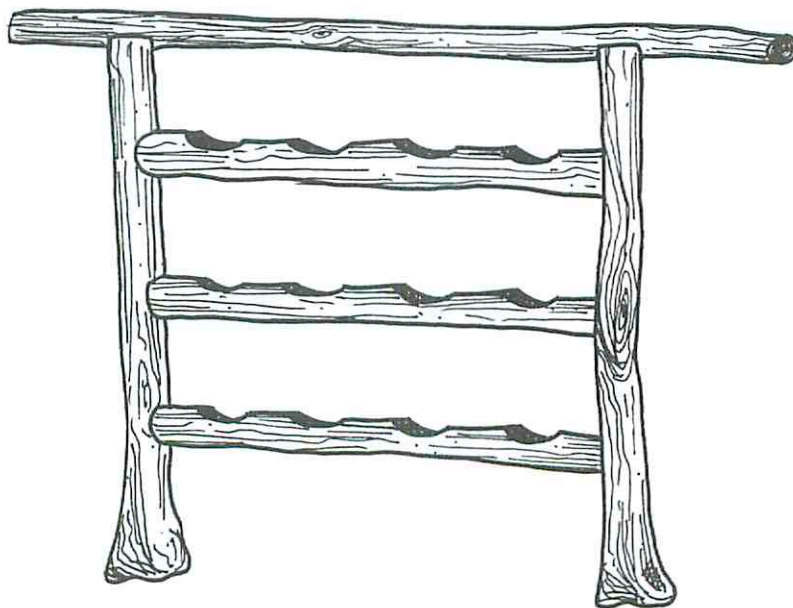

Figure 3
Now notch the ends of all six front and rear stretchers so they'll fit snugly against the legs (B). See Fig. 2. You'll use #10 – 3½" screws to attach the stretchers to the legs. The bottom stretcher will be 12" from the base of the legs, and each other stretcher will be spaced 4½" apart. See Figs. 3 and 4.
Now add the front and rear rails (C) to these frames. They will overhang, as can be seen in Figs. 3 and 4. Again, use #10 – 3½" screws. You may want to create a couple of notches in the rails at the juncture where they sit on top of the legs so they fit more securely.